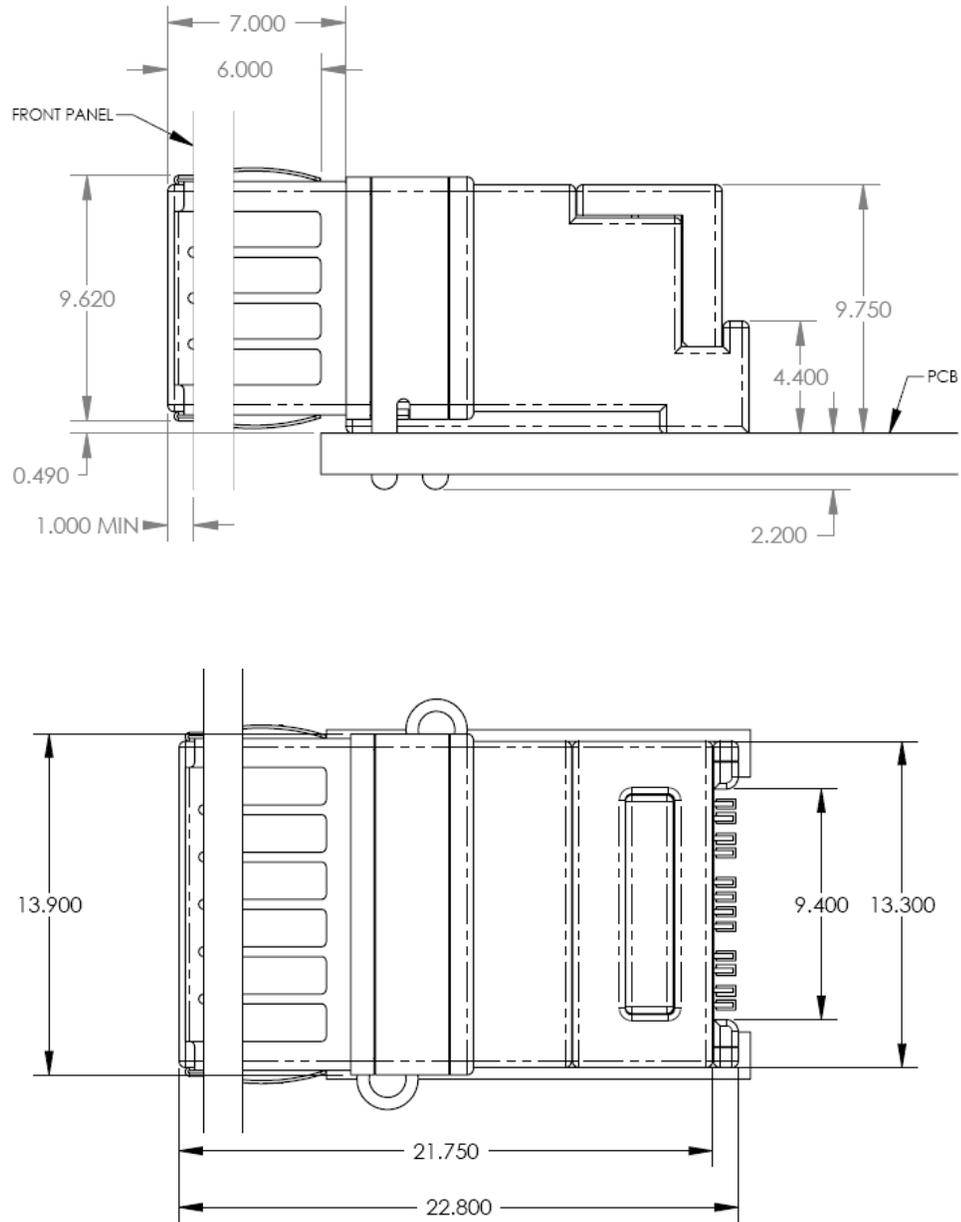

Figure 3. Side view and top view (with sample bezel shown).
- DC Coupled with 100Ω differential output impedance. **Must be AC coupled on HOST.** See Figure 3 of Laserwire (P/N FCBP110LD1Lxx) datasheet for output eye mask.